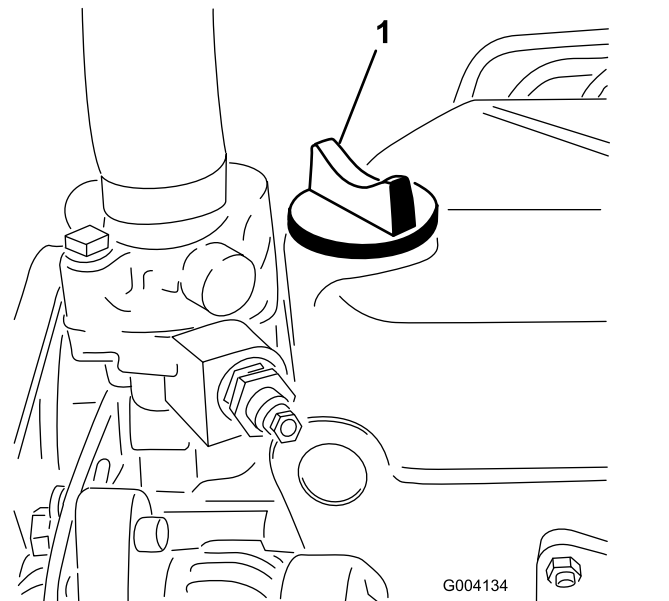

Figure 44
5. If the oil level is below the Full mark, remove the fill cap (Figure 44) and add oil until level reaches the Full mark on dipstick. **Do not overfill.**